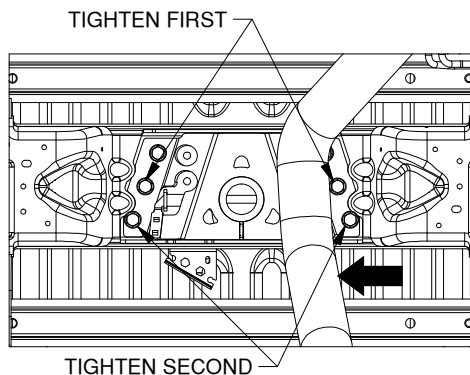
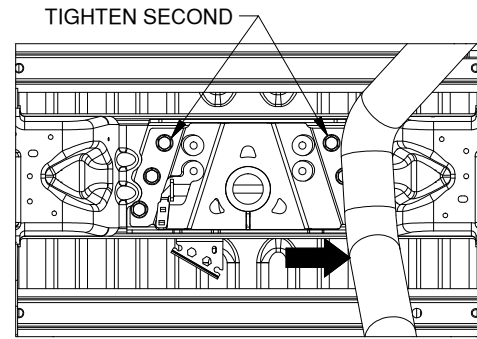

Figure C1: View under bed looking at center (Exhaust pushed toward inside.)
Figure C2: View under bed looking at center. (Exhaust pushed toward outside)
- 2. Tighten the bolts.** With the hitch square and firmly pressed against the frame cross member, tighten the 5/8" bolts. Tighten the center bolt of each three-bolt pattern first, see figure C1. Then tighten the rest, see figure C2. To better access the bolts on the passenger side of the center section move the exhaust as needed to allow access to the bolts. Torque the bolts to 150 ft. lbs.